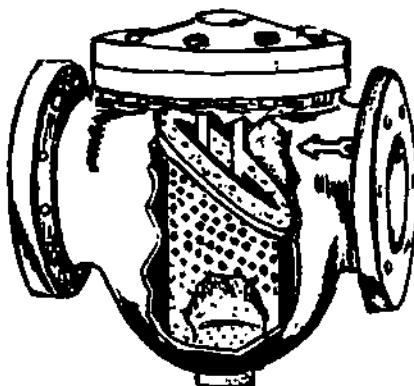

Figure 30-9. Strainer to Protect Device From Foreign Materials
48. A suitable strainer (see Figure 30-9) should be installed ahead of all Reduced Pressure, Double Check, and Pressure Type Vacuum Breaker Backflow Preventers to protect them against rocks and other material.